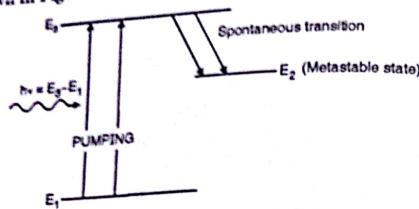
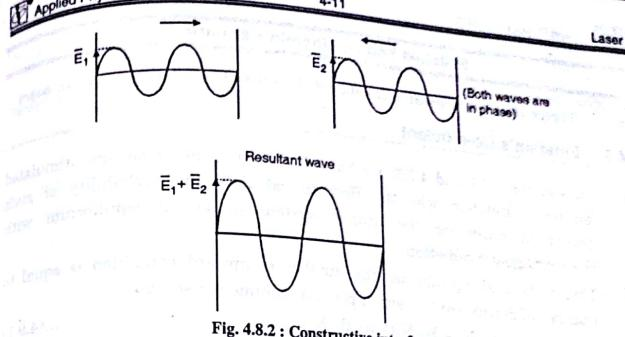
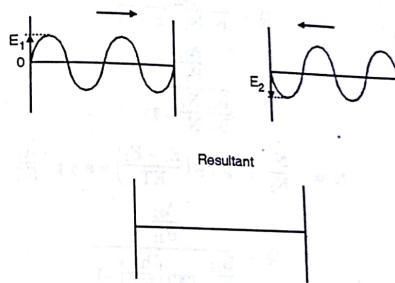

Fig. 4.7.1 : Pumping in 3 level scheme
Fig. 4.8.2 : Constructive interference
Fig. 4.8.3 : Destructive interference
Consider the case of three energy levels taking part E_1 , E_2 (Metastable state) and E_3 as shown in Fig. 4.7.1.
- A laser device consists of an active medium bound between two mirrors or highly reflecting surfaces as shown in Fig. 4.7.1. These surfaces reflect the photons to and fro through the active medium. A photon moving in a particular direction represents a light wave moving in the same direction. Thus the two mirrors along with the active medium form a cavity inside which two types of waves exists, one type comprises of waves moving to the right, and the other one to the left Figs. 4.8.2 and 4.8.3.
- The two waves interfere constructively if there is no phase difference between the two (Fig. 4.8.2) But, their interference becomes destructive if the phase difference is $\pi/2$ (Fig. 4.8.3).